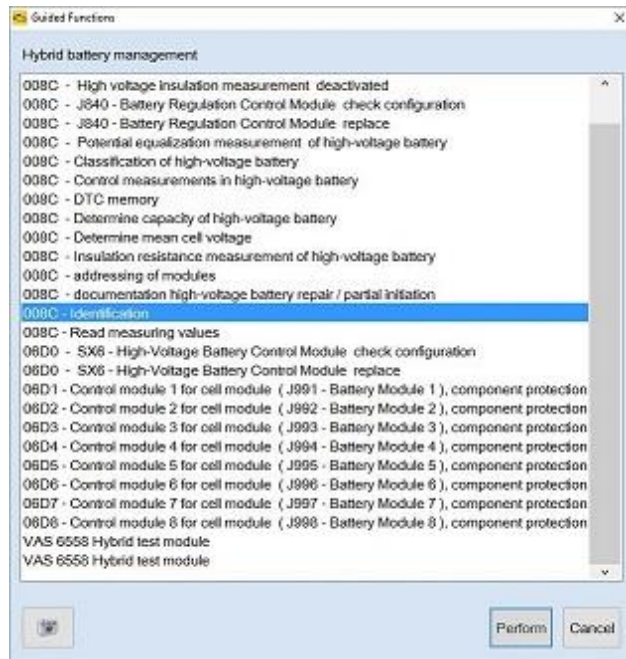

Figure 4. Identification data, Hybrid Battery Management module.
3. The Identification data of the hybrid battery management module, J840 (address word 008C) is now displayed (Figure 4). Write down the Software part number, Software Version number, Hardware part number, and Hardware version number, as this information will be needed in the following steps. After you have saved the data for later, answer yes to the question “Do you still want additional identification data?”